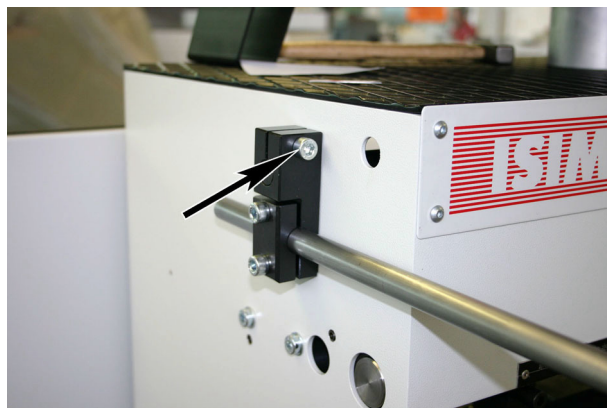

Fig. 3
4. Loosen the Allen head screw on both sides of the safety bow (only loosen slightly, Fig. 3, arrow).
6. Tighten the Allen head screw again (on both sides of the safety bow, Fig. 3, arrow).